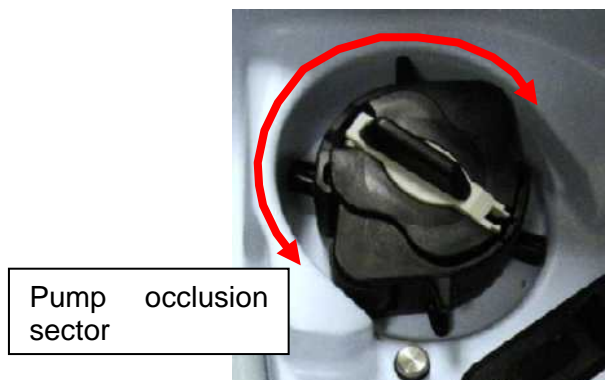

Fig. 14.12-2
- Stop the pump so that one of the pump roll is in the occlusion sector (see fig.14.12-2), so that it occludes the tube, and wait 60 s to check that on the calibrator the pressure is not decreasing below max 0,1 bar;